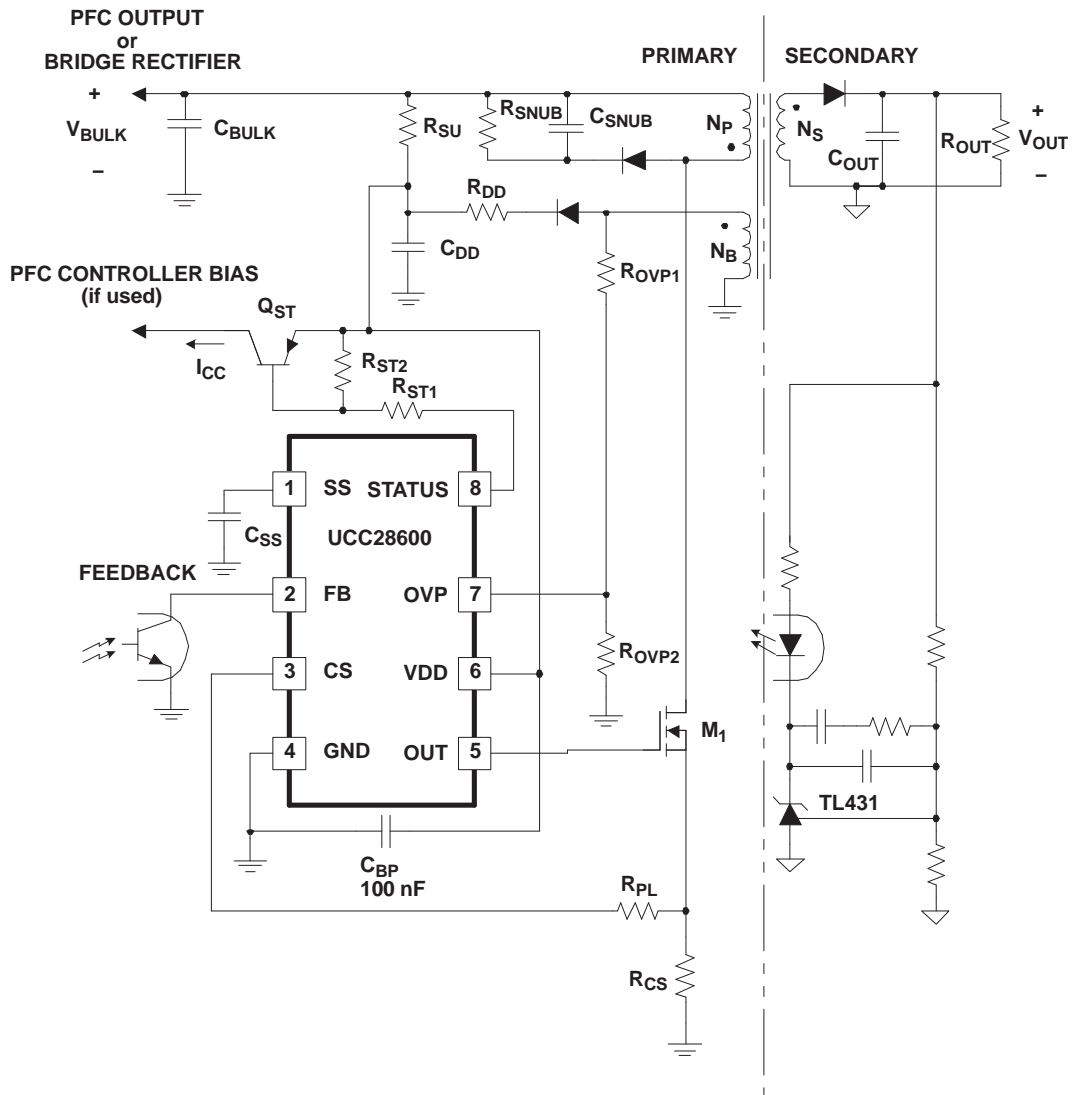

Figure 1. Pin Termination Schematic
- (1) Refer to Figure 1 for all reference designators in the Terminal Components Table.
- (2) Refer to the Electrical Characteristics Table for constant parameters.
- (3) Refer to the UCC28600 Design Calculator (TI Literature Number SLVC104) or laboratory measurements for currents, voltages and times in the operational circuit.
The UCC28600 has many protection features that are found only on larger, full featured controllers. Refer to the Block Diagram/Typical Application and Figures 1, 4, 5, 6 and 7 for detailed block descriptions that show how the features are integrated into the normal control functions.